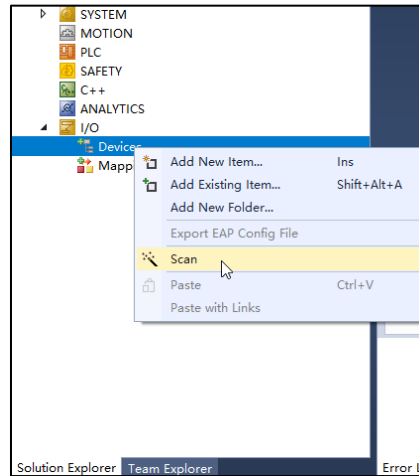

Figure 13: Scan Device
- a. In solution explorer, right-click I/O > Devices, then select Scan (see Figure 13 on page 25).